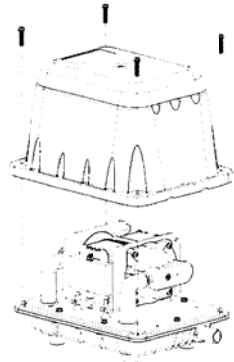

Figure 2
- A. Loosen the four screws around the aluminum upper cover, and take the cover off. (As shown in figure 2)